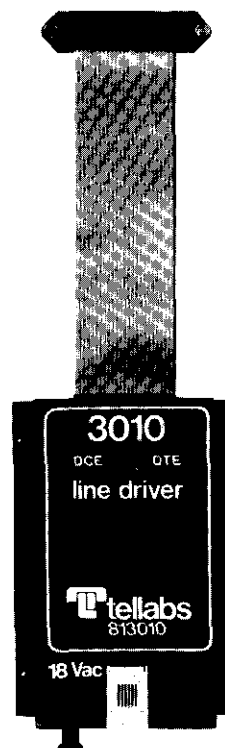

figure 1. 3010 Asynchronous Line Driver
1.01 The Tellabs 3010 Asynchronous Line Driver (figure 1) derives balanced differential transmit and receive signals via its internal line driver circuitry at one end, and accepts an EIA RS-232-C-compatible interface at the other end. This interface capability allows the 3010 to support asynchronous full-duplex data transmission over 4wire facilities (for one data terminal) for distances up to 2 miles at 9600 baud or longer distances at lower baud rates. The 3010 is a stand-alone unit designed for asynchronous communication only.